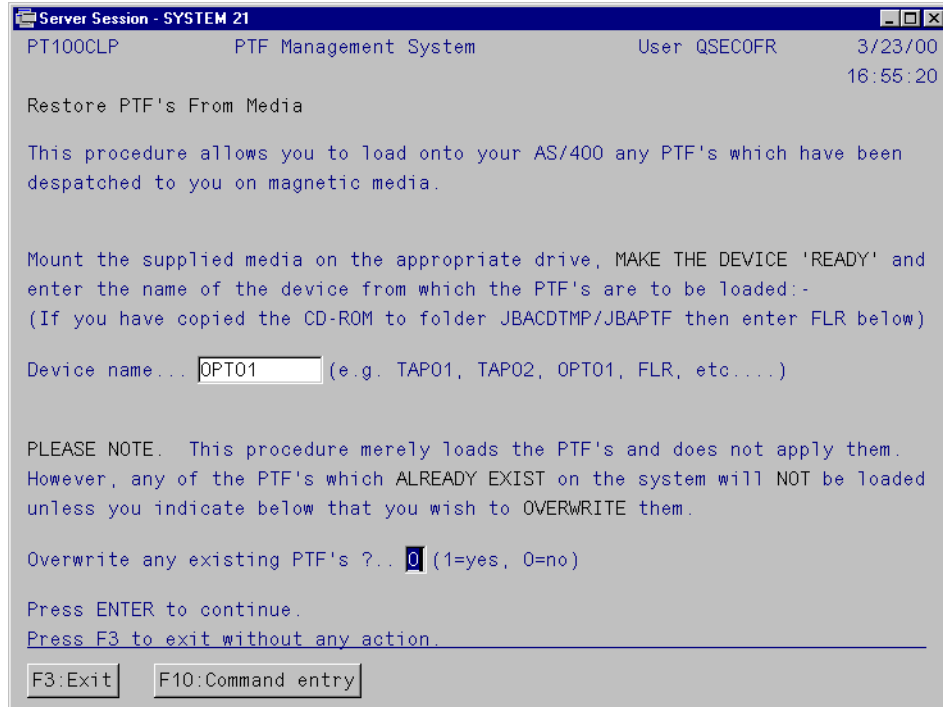

Figure 104. Restore PTF From Media display
4. Enter the name of the device from which you want to load the PTF. Then specify whether you want to overwrite any existing PTFs with the same name, as shown in Figure 104.